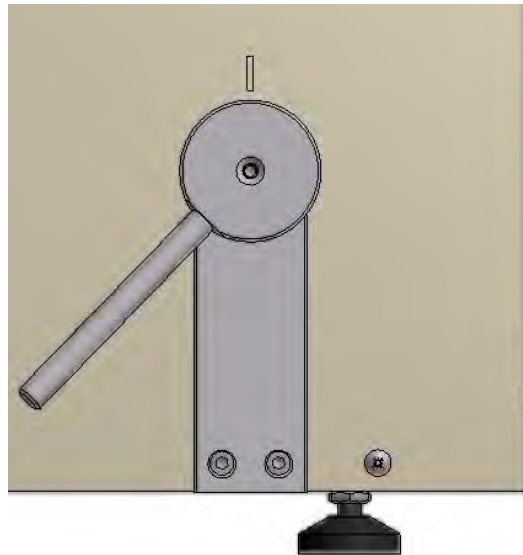
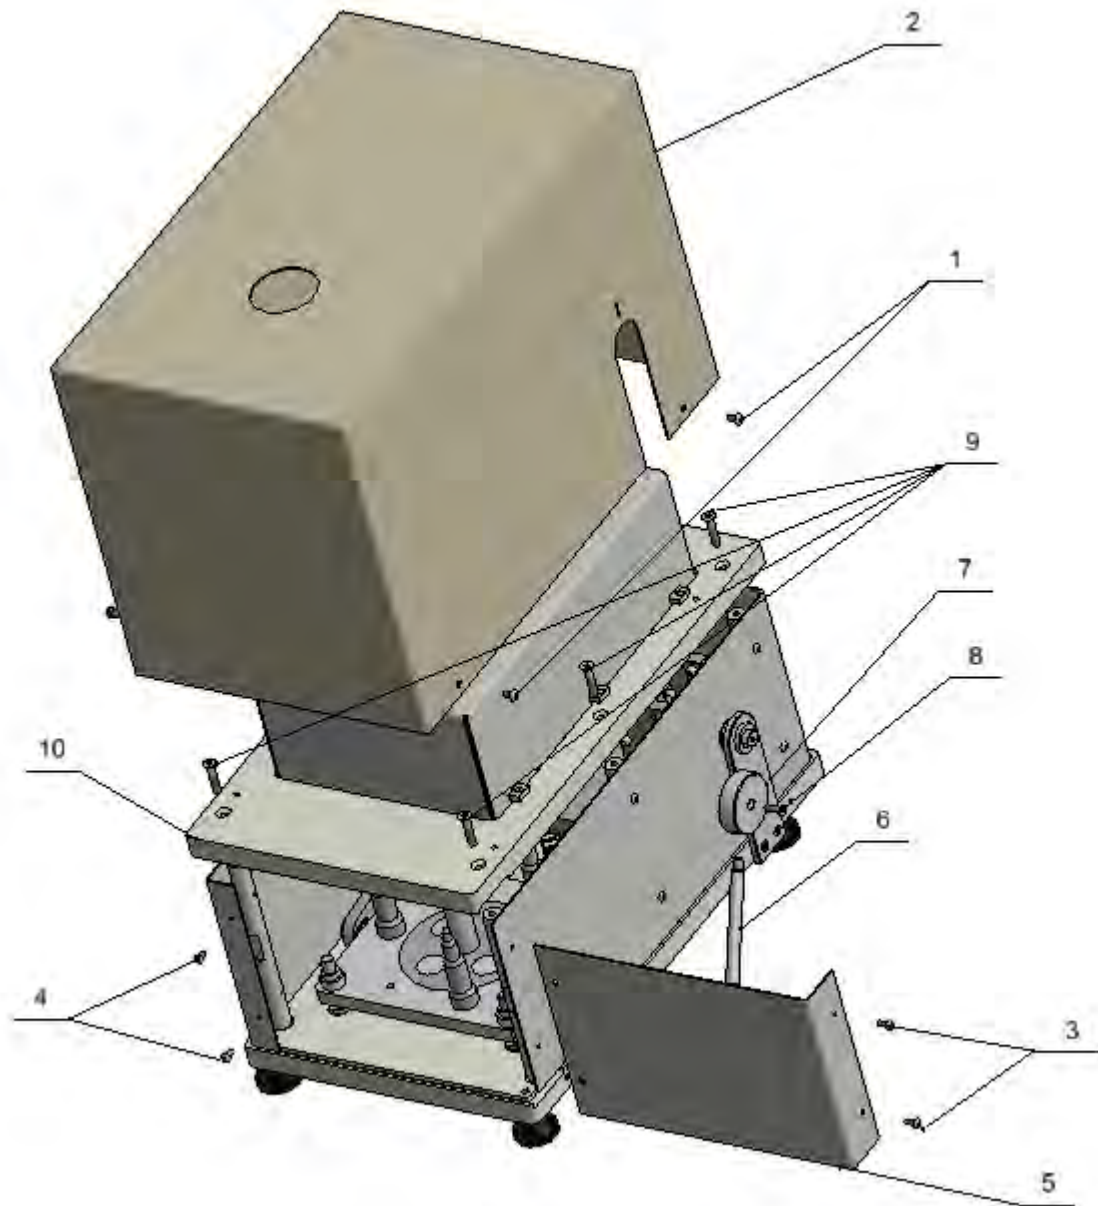

Fig. 2
Fig. 1
1. Undo four M4 screws (1) located on both sides of the housing (2). (Fig. 1)
2. Carefully remove the housing (2). (Fig. 1)
3. Undo two M4 screws (3) and two M4 screws (4). (Fig. 1)
4. Slide out the lid assembly for a bottom shield (5). (Fig. 1)
5. Screw lever (6) into a knob (7), next fix the knob to a comparator using M5 screw (8) (Fig.1). The lever should take lower position as presented in Figure 2.
7. Undo six M6 screws (9) (Fig. 1)